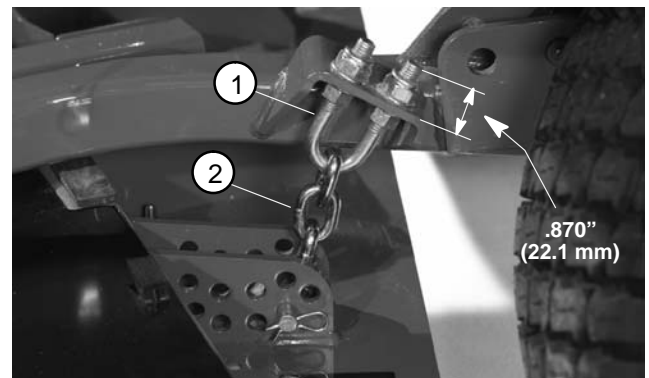

Figure 3
5. If height-of-cut chain u-bolt was removed from lift arm, assemble u-bolt so that threaded portion extends .870" (22.1 mm) above mounting plate on lift arm (Fig. 3).